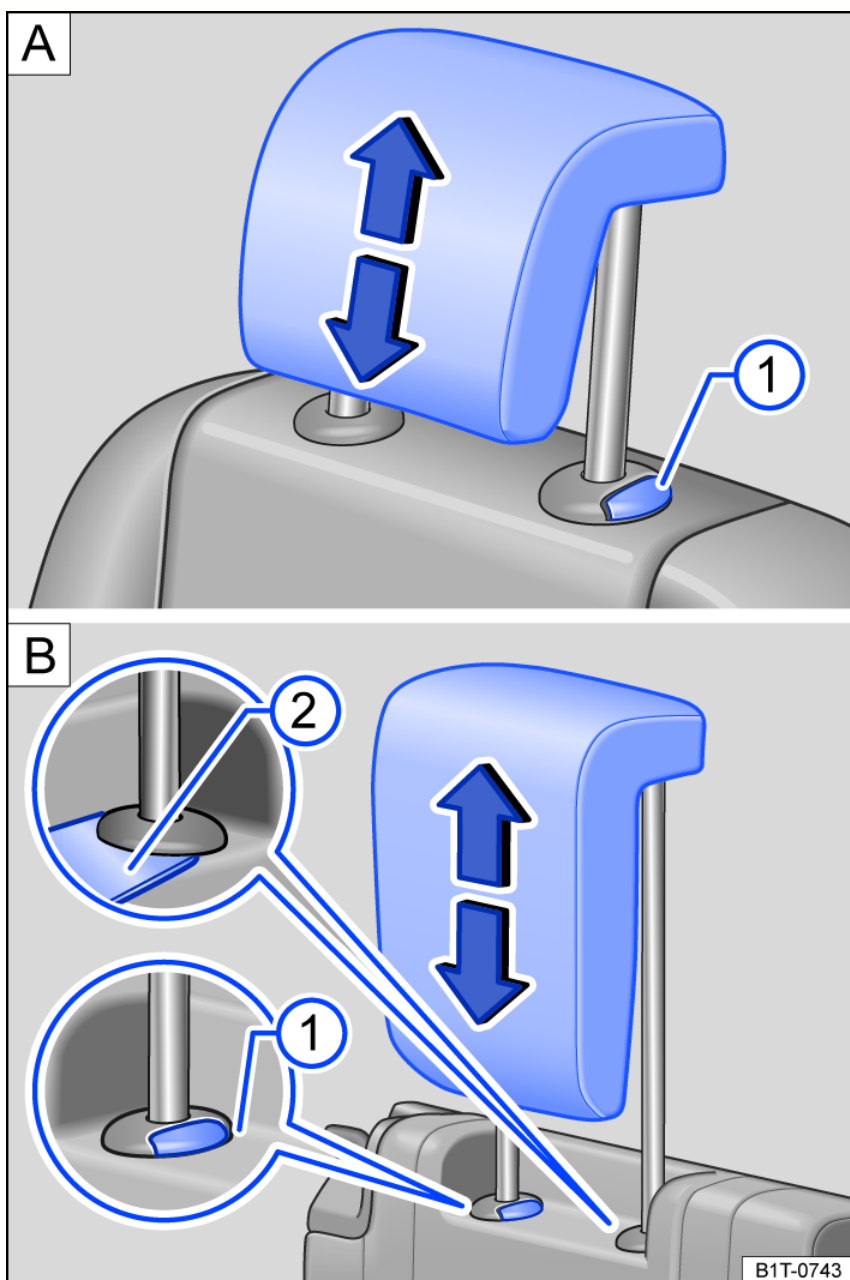

Fig. 86 Rear head restraint: removing.
- Pull the head restraint all the way out while pressing the fig. 86 button.
- To assist release where necessary, insert a flat object, e.g. a plastic card fig. 86 between the backrest cover and the cap of the head restraint guide pin.
- Pull the head restraint all the way out while pressing the fig. 86 button fully.
- Push the head restraint downward while pressing the fig. 86 button.